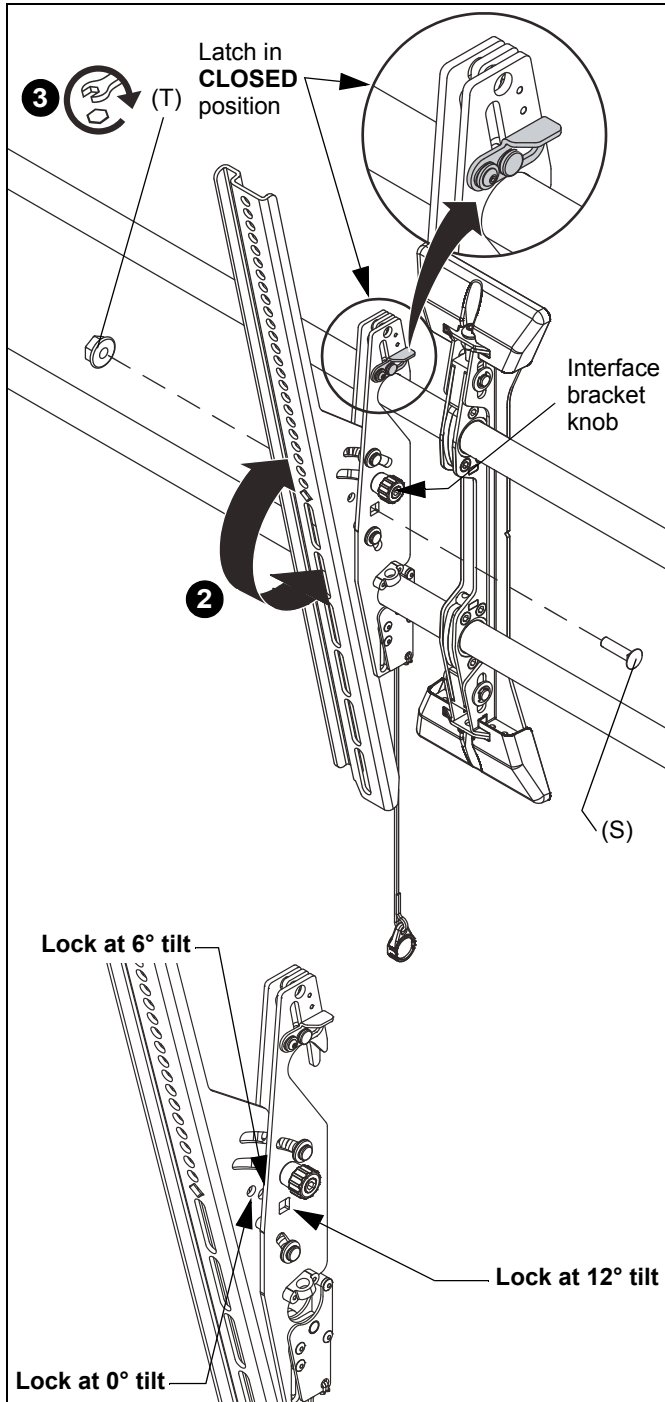

Figure 16
3. **(XTM1U only)** Move latch on top of interface brackets to CLOSED position. (See Figure 16)
2. Adjust tilt as required. (See Figure 16)
3. The tilt may be locked at 0° , 6° or 12° using one $1/4-20 \times 1"$ round head carriage bolt (S) and one $1/4-20$ hex nut (T) per interface bracket. (See Figure 16)